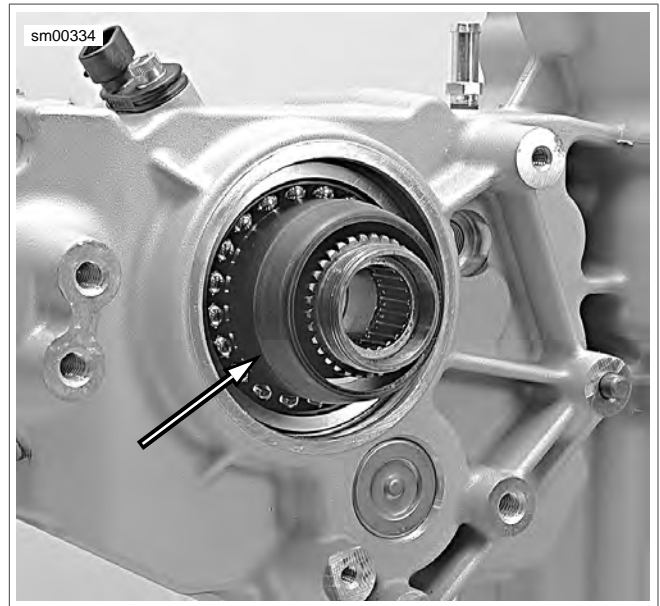

Figure 5-77. Install Pilot (Typical)
1. See Figure 5-77. From outside of crankcase, install PILOT (Part No. HD-47856-2) over end of main drive gear bearing inner race.